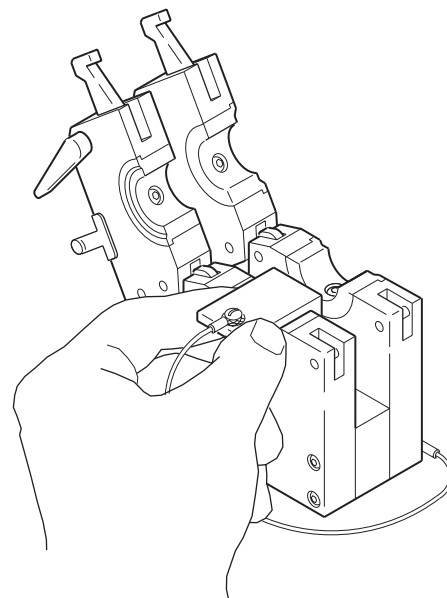

Figure 13 Place the Centering Gage
1. Place the centering gage in one side of the tube fixture block. The centering gage must span the width of the collet. Verify that the centering gage is positioned correctly for either the thick or thin side plate. See Figure 13.